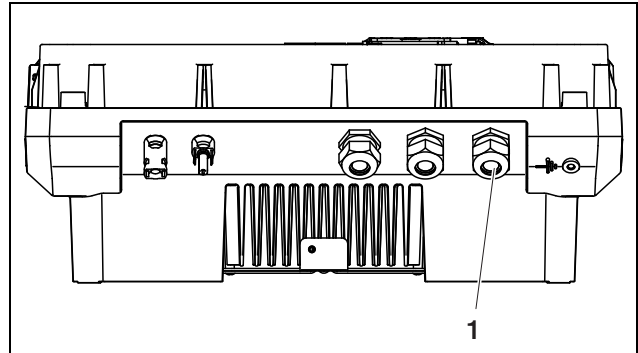

Fig. 9: Connections on the housing
- Unscrew the cable screw connection for the mains cable (1 in figure 9).